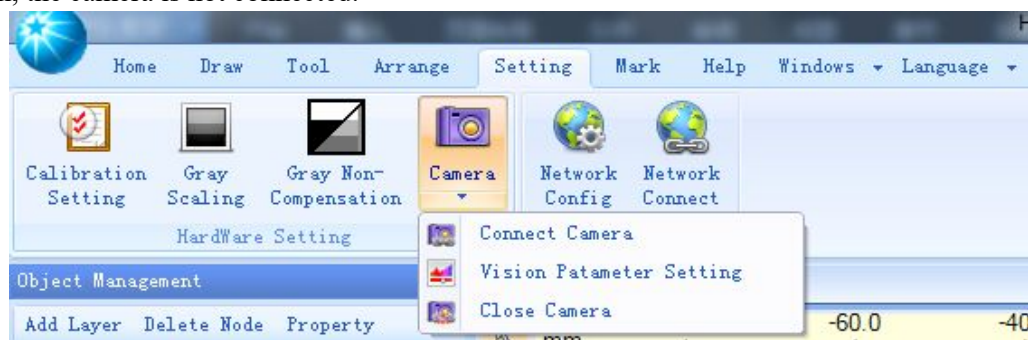

图 1.3
- Click the "Visual Settings" button, Figure 1.3 will appear, then click "Connect Camera", the camera parameter setting interface will pop up, as shown in Figure 1.4, click the "Connect" button to complete the camera settings, and the real-time image will be displayed in the working area. As shown in Figure 1.5, if you click the "Disconnect" button, the camera is not connected.